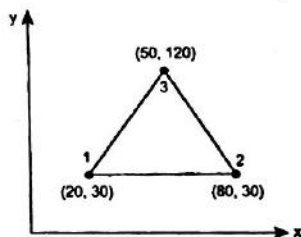

Fig 13(a)
13. (a) Determine the stiffness matrix for the CST Element shown in Fig 13(a). The coordinates are given in mm. Assume plane strain conditions. $E = 210$ GPa, $\nu = 0.25$ and $t = 10$ mm. (16)